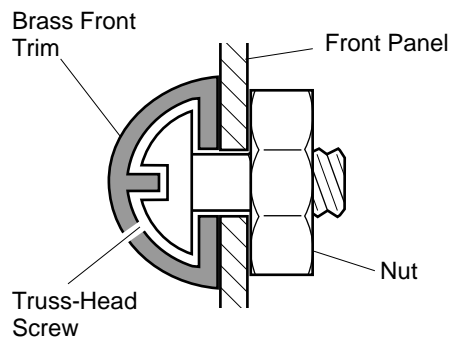

Figure 4 - Attaching Brass Front Trim to Front Panel
2. Slide the head of two truss-head screws from hardware packet into each end of brass front trim (see Figure 4).